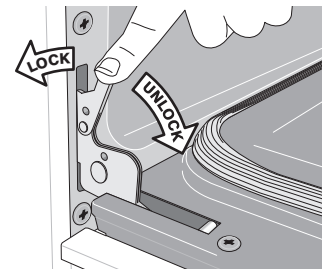

Figure 24: Door hinge locks
2. Pull the door hinge locks on both left and right door hinges down from the oven frame completely towards the oven door (See Figure 24). A tool such as a small flat-blade screwdriver may be required.
4. Push the door hinge locks up towards and into the oven frame on both left and right oven door hinges to the locked position (See Figure 24).